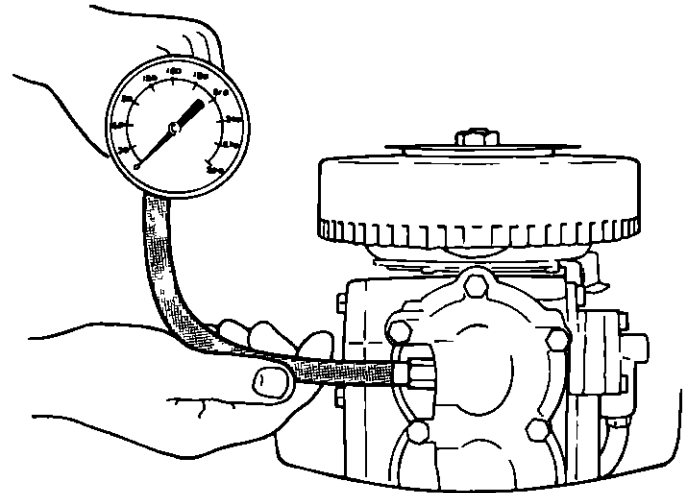

Figure 3 Compression Gauge Installed
- 2 Insert the tip of the compression tester into the spark plug hole of the cylinder being tested. Set throttle to wide open position. Figure 3